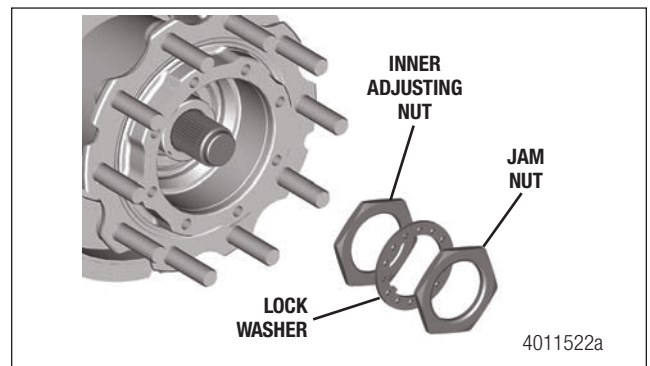

Figure 8.26
5. Install the inner adjusting nut, lock washer and outer jam nut. Figure 8.26.